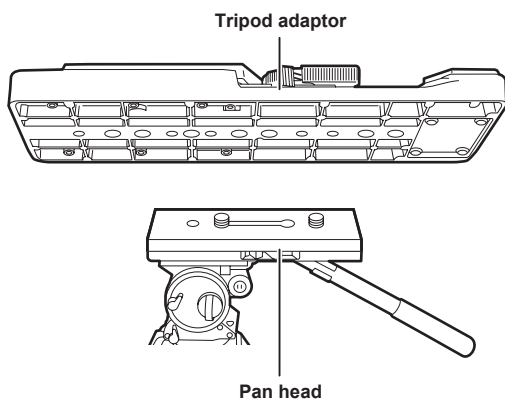

Fig. 1
- 1 Mount the tripod adaptor on the tripod. (Fig. 1)